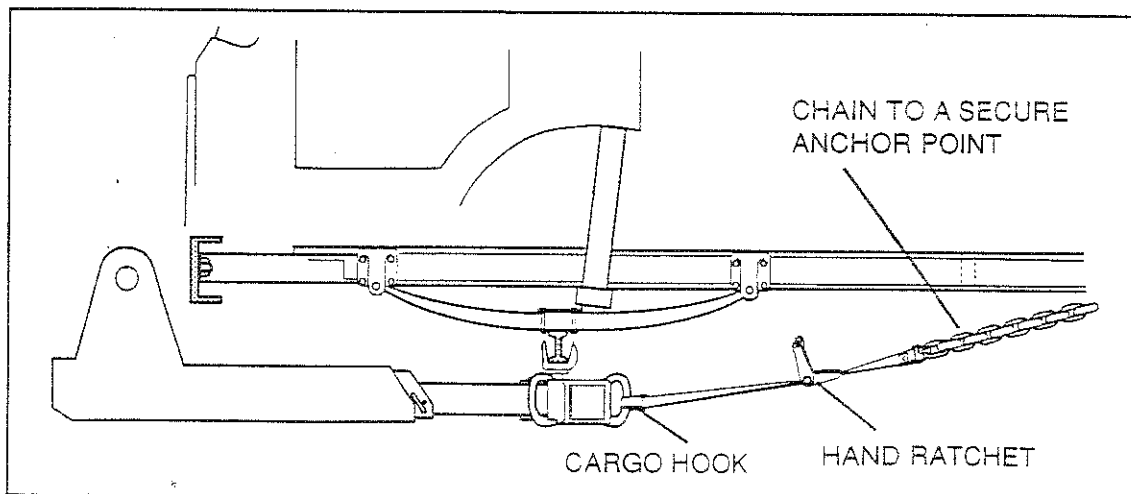

Figure 12 - Restraint against acceleration
- 3.3.4 When the recovery vehicle accelerates, the casualty will tend to get left behind. This is a similar effect to 3.3.3. above, but lesser in extent. This can be countered by using a nylon strap and hand ratchet. Ideally the ratchet should have a short 'tail' fitted with a means of attaching to a chain from an anchor point. The nylon strap should have a cargo hook to connect to the fork pedestal. Tension with the hand ratchet. See Figure 12. Again it is recommended that the path of the restraining strap should lie near to horizontal.